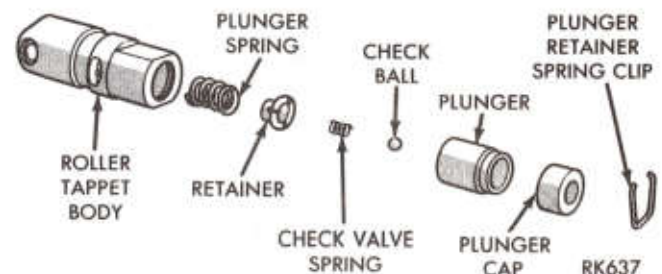

Fig. 24—Hydraulic Roller Tappet Assembly
Disassembly (Fig. 24)
- (1) Clean all tappet parts in a solvent that will remove all varnish and carbon.
- (2) Replace tappets that are unfit for further service with new assemblies.
- (3) If plunger shows signs of scoring or wear and valve is pitted, or if valve seat on end of plunger indicates any condition that would prevent valve from seating, install a new tappet assembly.
- (4) Assemble tappets (Fig. 24).